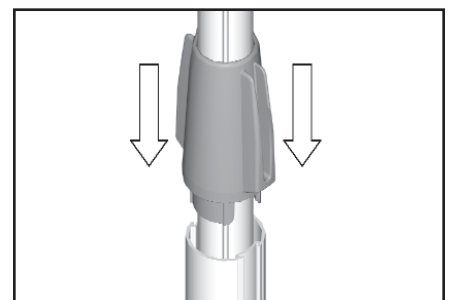

Figure 22
17. Remove the level from the post by sliding it up off the bottom portion of the post. Slide the blue locking device down to fit into the bottom part of the post to lock the post in place (Figure 22).
11. To remove the rail from the lowered post and tilt the rail downward to remove it from the other secured post; press the blue locking tab under the rail to release it from the post (Figure 41). (P/up Figure 22 from 2-post.)